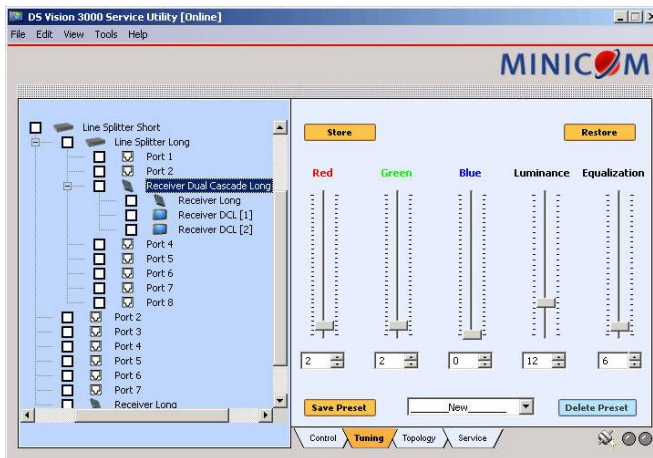
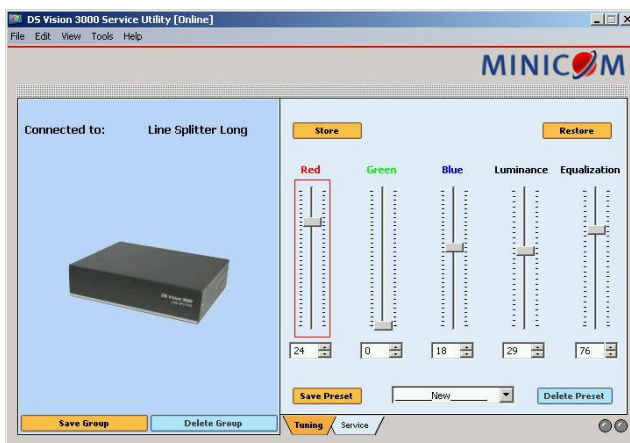

Figure 35 Tuning window from Transmitter position
Figure 36 Tuning window from Line Splitter L position
2. Click the Tuning tab or select View/Tuning. The Tuning window appears see Figure 35 and Figure 36.